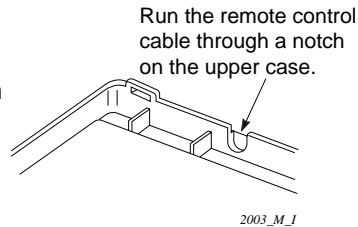
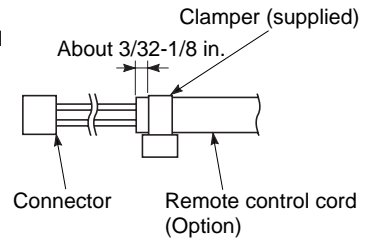

Fig. 7-15
Fig. 7-16
- (2) The wire routing at the signal receiving unit comes out of the upper case (thin portion at upper center) so use nippers or a similar tool to cut out a notch beforehand large enough for the remote control cable (option) to pass through as shown in Fig. 7-15.
- (3) Remove the wire which is connected prior shipping from the connector.
- (4) Connect the remote control cable (option) to the signal receiving unit connector shown in Fig. 7-16 after the clamper (supplied) with the unit is installed.